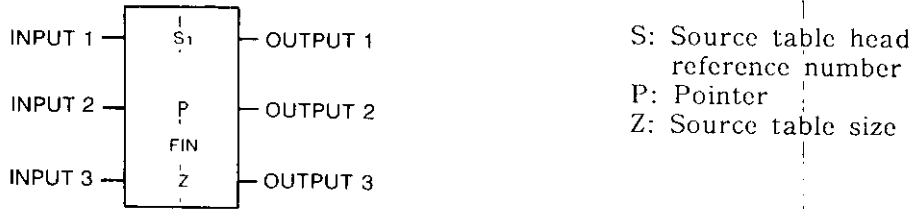

Fig. 5.55 FIN General Form
- Fig. 5.55 shows the form of first in.